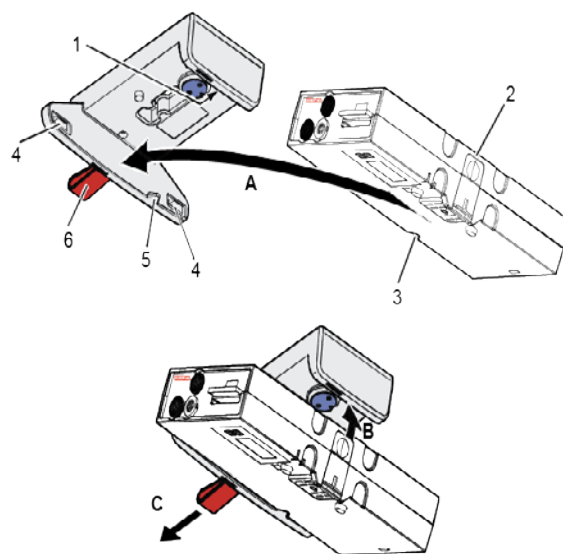

Fig. 4-34 Inserting the patient box into the charging bracket (ceiling installation)
1. Position the patient box as shown in Fig. 4-34.
1. Disconnect the safety belt (not illustrated in Fig. 4-34).
2. Firmly hold the patient box and pull the loop (item 6) (item C).